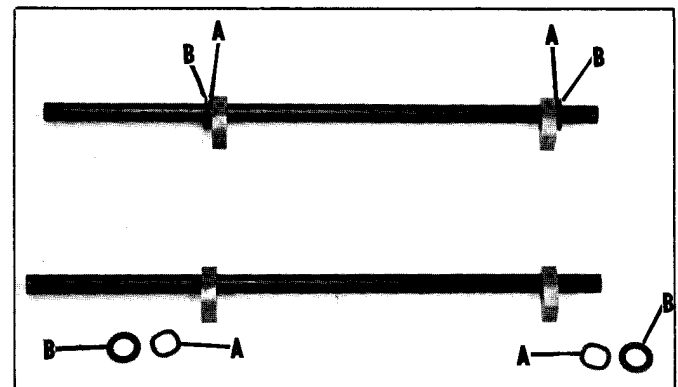

Fig. 3
4. Assemble the spring washer (A) and fiber washer (B) to the two shafts as shown in Fig. 3.